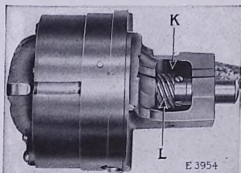

FIG. 31. VIEW OF MOTOR, SHOWING LUBRICANT WELL AND SPIRAL DRIVING PINION
- (f) Fill the well (K, Fig. 31) in which the spiral pinion (L, Fig. 31) revolves, with Singer Motor Lubricant (**not oil**).